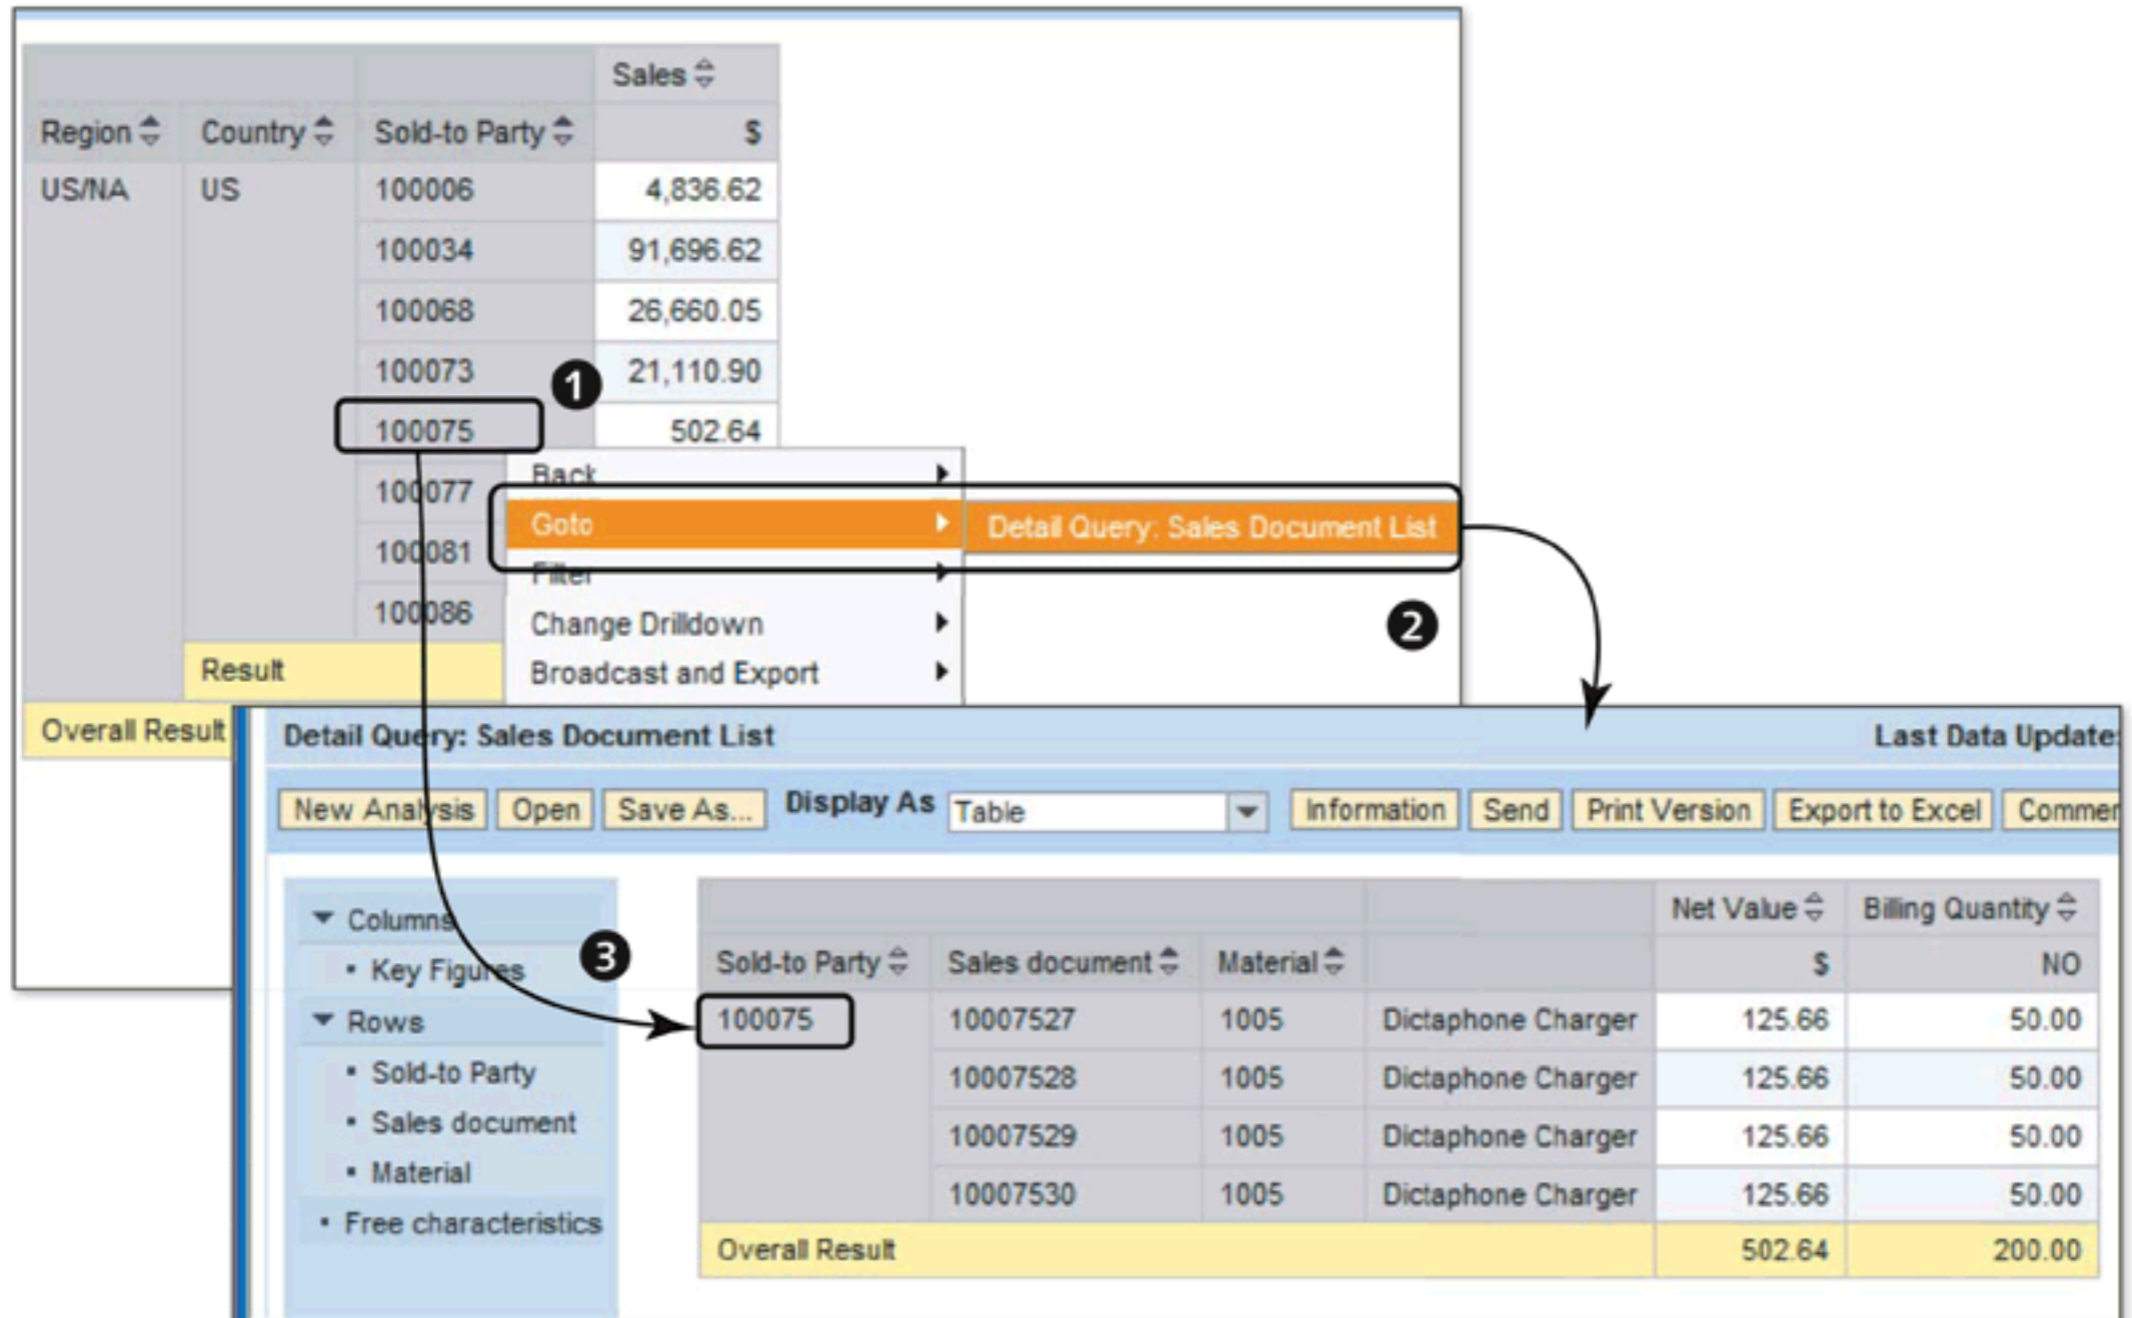

Figure 9.97 Using Report-to-Report Interface (RRI)
Figure 9.97 shows the use of RRI, which has just been defined.
RRI is available for the characteristic value for which it's defined (❶ of Figure 9.97). For this example, you can see in Figure 9.97 that the GOTO section in the context menu for customer value 100075 shows RRI for DETAIL QUERY: SALES DOCUMENT LIST (❷). Select the RRI query, and it will call the receiver query and display the detailed list of all sales documents. As you can see from ❸ of Figure 9.97, the value 100075 for the customer is passed as a parameter from the sender to the receiver. This is based on the field assignments defined for RRI.